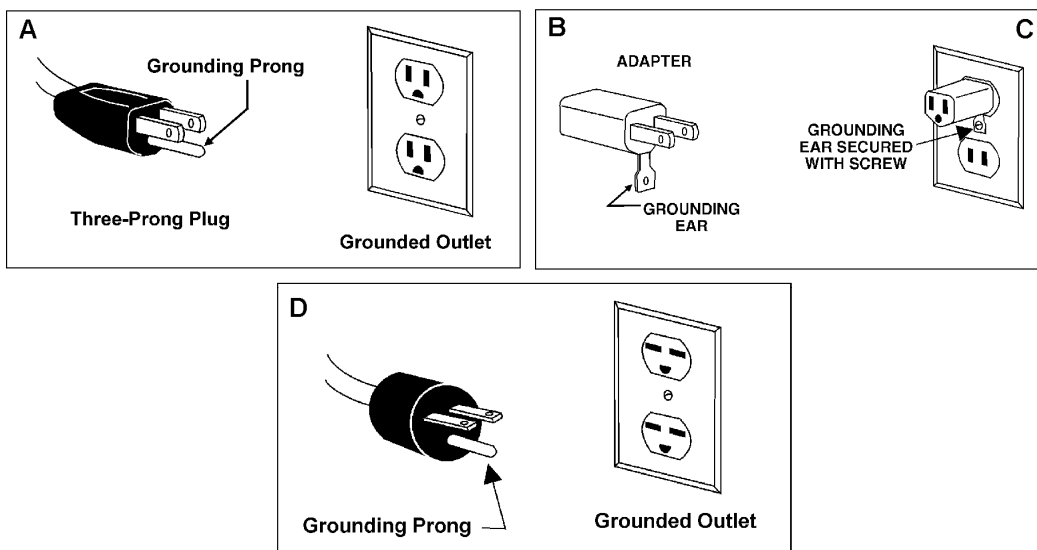

Figure 2
The 115V attachment plug (shown in A, Figure 2) must be replaced with a UL/CSA listed plug suitable for 230V operation (shown in D, Figure 2). The mortiser must comply with all local and national codes after the 230 volt plug is installed.
1. Loosen *lock lever* (B) and lower the *depth stop rod* (A) until it comes to rest on top of the *column stop* (C).
2. With the *operating handle* (see Figure 2) lower the *head* (E) until the *chisel* (D) is at the desired depth.
3. The *depth stop rod* (A) should still be resting on top of the *column stop* (C).
4. Tighten the *lock lever* (B).